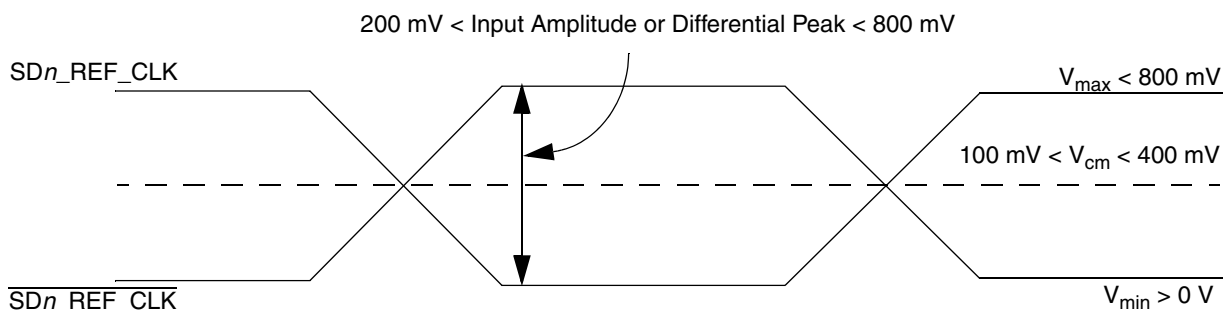

Figure 53. Differential Reference Clock Input DC Requirements (External DC-Coupled)
- For **external DC-coupled** connection, as described in Section 21.2.1, “SerDes Reference Clock Receiver Characteristics,” the maximum average current requirements sets the requirement for average voltage (common mode voltage) to be between 100 mV and 400 mV. Figure 53 shows the SerDes reference clock input requirement for DC-coupled connection scheme.